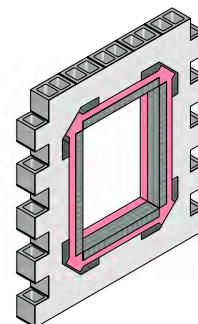

Figure 15
7. Repeat steps 3 – 6 on the head and jambs. (See Figure 15).